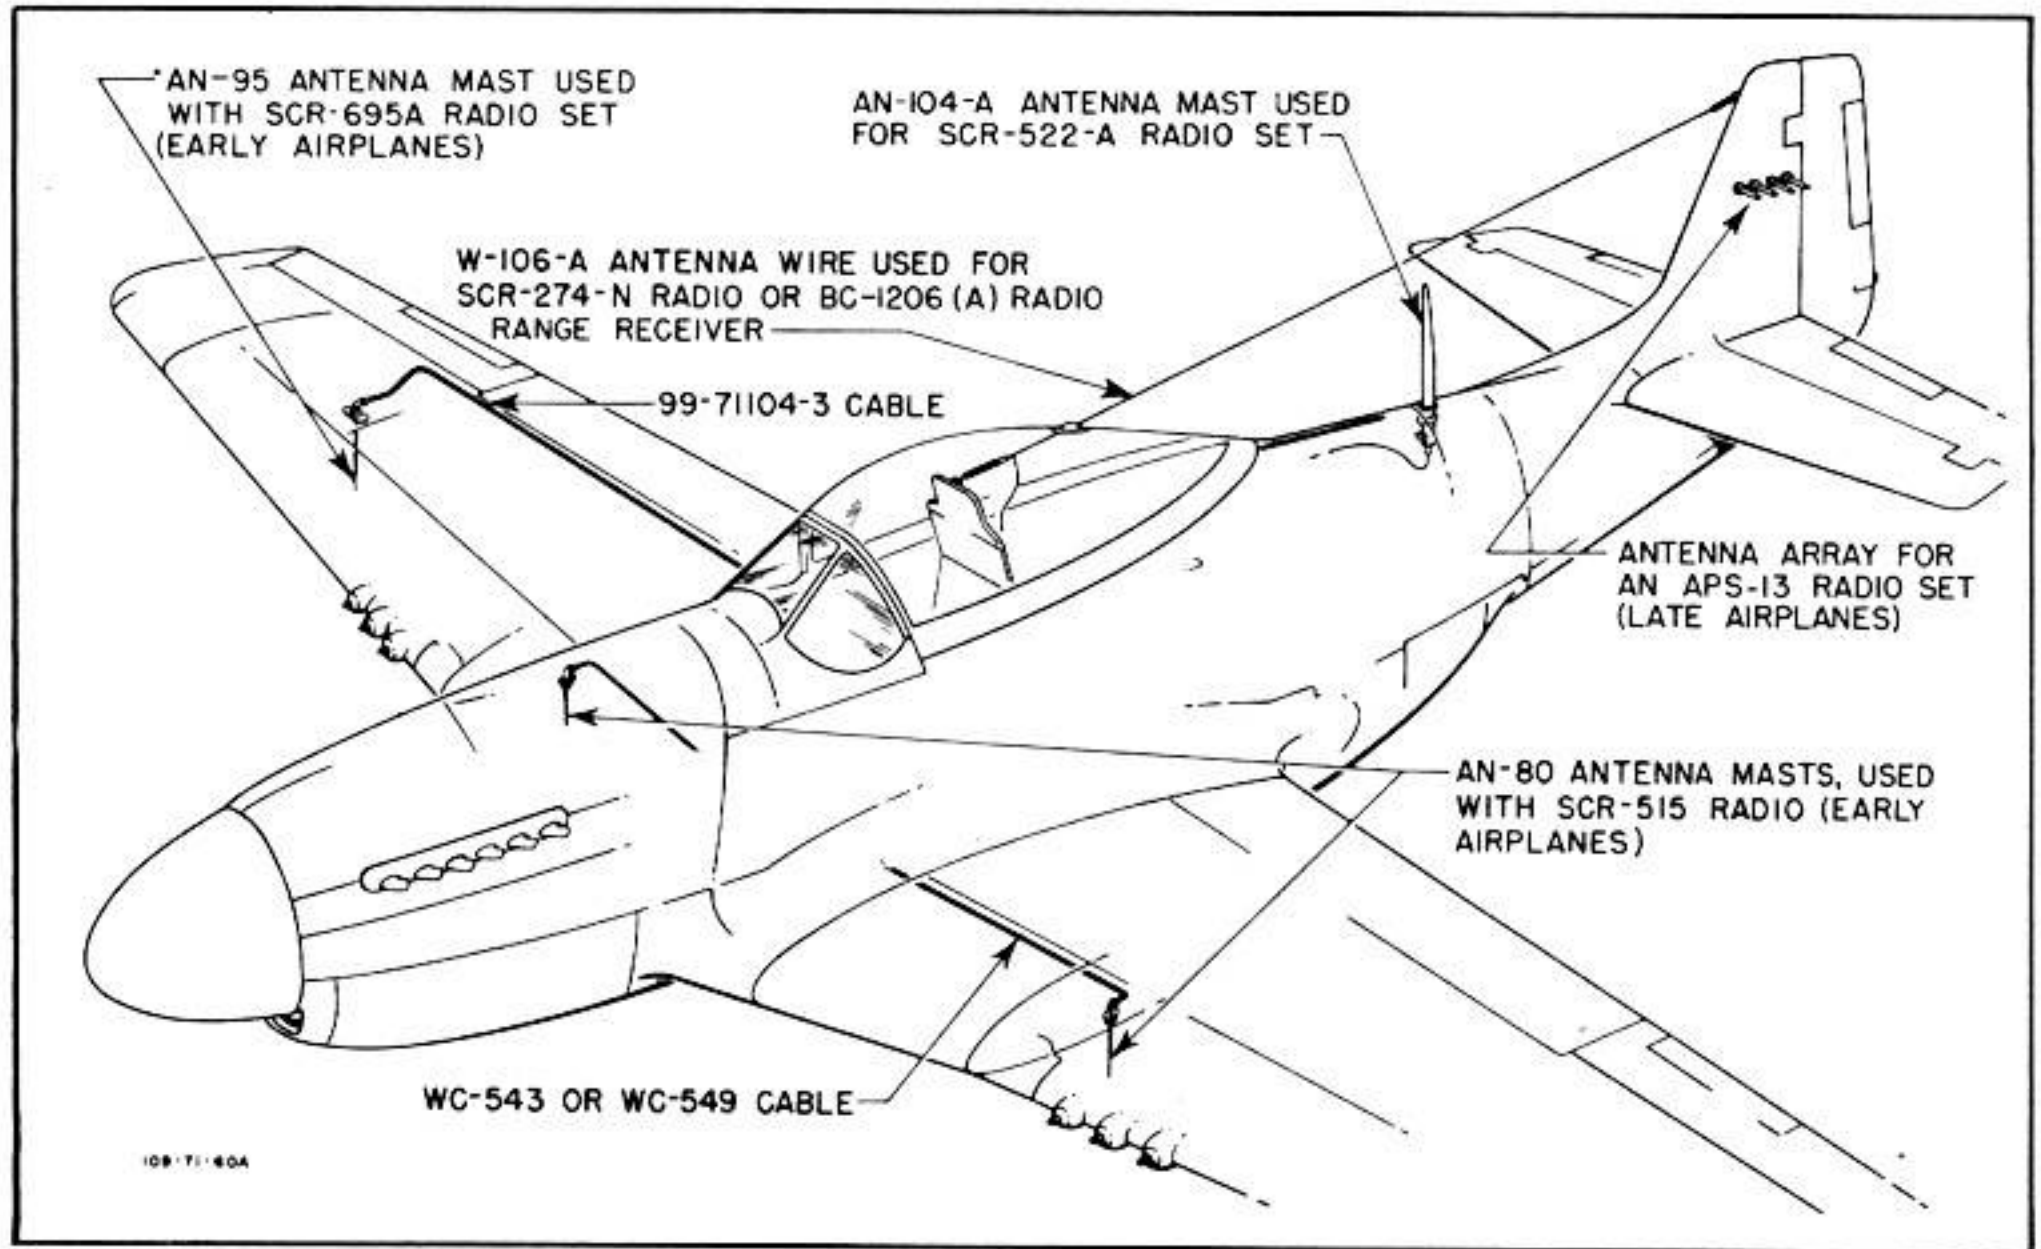

Figure 408—Antenna System
i. ANTENNA SYSTEM. (See figure 408.)
(1) DESCRIPTION.—On early airplanes, the antenna system consists of three antennas and provisions only for the two AN-40 antenna masts used with the SCR-515 radio set. On later airplanes, the system consists of four antennas. The AN-104-A mast used with the SCR-522-A radio set is insulated completely from the fuselage. The antenna extending from the vertical stabilizer is used for the SCR-274-N and radio range receiver on early airplanes. On later airplanes, the antenna is used only for the radio range receiver.